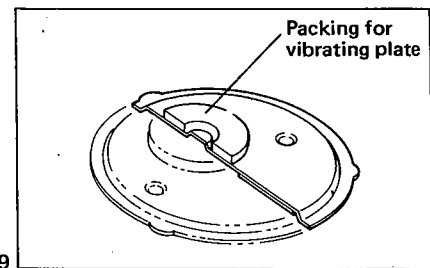

Fig. 9
- d. The packing for vibrating plate is put onto the projection of the back of the power cell and at the caseback side of the vibrating plate. (Figs. 9 and 10)